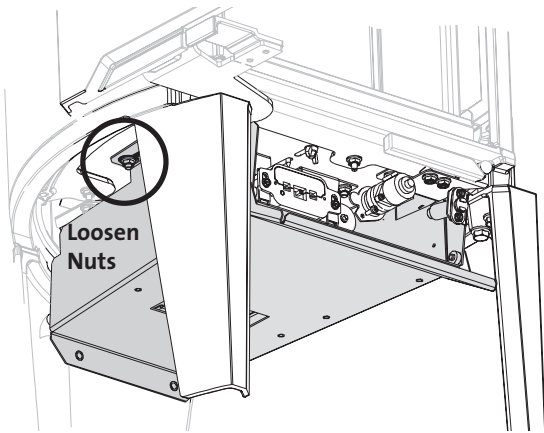

Figure 8. Drop Control Compartment to access IFC.
11. **Drop the Control Compartment.** Fig. 8.